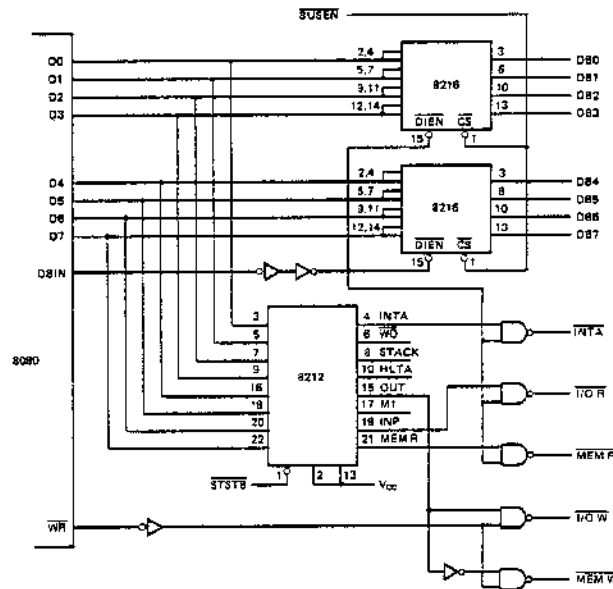

Figure 3-5. 8080 System Control
A pair of 8216's are connected directly to the 8080 Data Bus (D7-D0) as shown in figure 3-5. Note that the DBIN signal from the 8080 is connected to the direction control input (D \overline{TEN}) so the correct flow of data on the bus is maintained. The chip select (\overline{CS}) of the 8216 is connected to BUS ENABLE (\overline{BUSEN}) to allow for DMA activities by deselected the Data Bus Buffer and forcing the outputs of the 8216's into their high impedance (3-state) mode. This allows other devices to gain access to the data bus (DMA).
As described previously, the 8080 issues Status information at the beginning of each Machine Cycle on its Data Bus to indicate what operation will take place during that cycle. A simple (8) bit latch, like an INTEL[®] 8212, connected directly to the 8080 Data Bus (D7-D0) as shown in figure 3-5 will store the